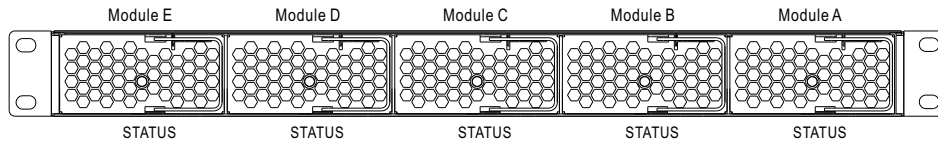

Figure 5-1 RHP System assembly diagram
- ⊙ Insert 1 ~ 5 pieces of RCP/RCB-1600 (with the same output voltage and current) into the RHP-1U (refer to Figure 5-1)